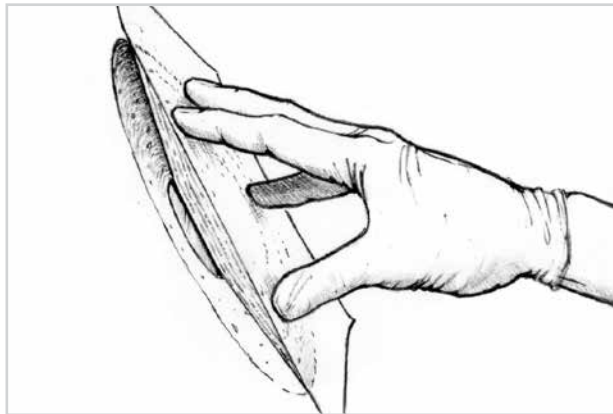

Figure 4-8 Press the wet-out patch, release fabric and plastic into the beveled hole cavity. Squeegee over the patch to remove excess epoxy and trapped air.
5. Lift the wet-out patch, release fabric and plastic from the work surface and press it, plastic side out, into the beveled hole cavity (Figure 4-8). Squeegee over the plastic with firm pressure to remove excess epoxy and trapped air, and smooth the patch. Before the epoxy cures, remove the excess from the surrounding areas with a beveled mixing stick or paper towel.